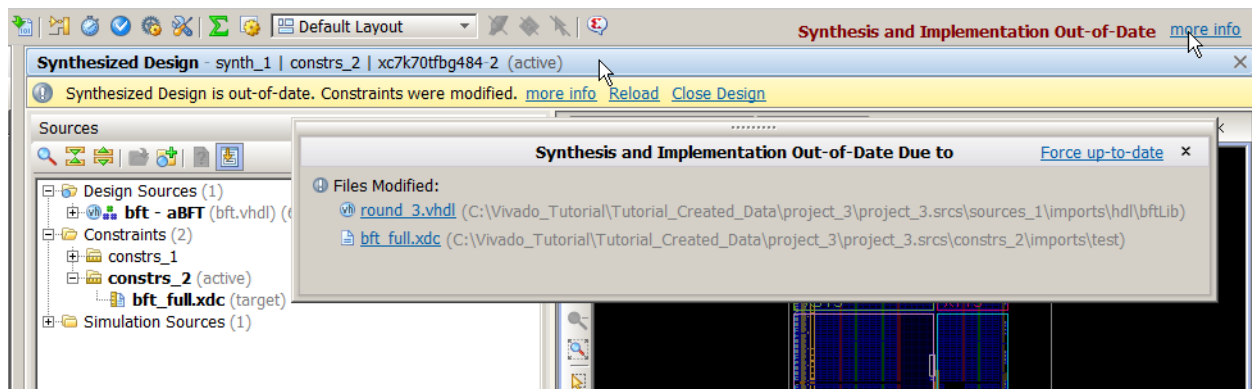

Figure 3-23: Design Out-of-Date and Reload Banner
As source files, netlists, or implementation results are updated, an out-of-date message is displayed at the right side of the Design View banner of an open Synthesized Design or Implemented Design to indicate that the run is out of date, as shown in Figure 3-23. Click the associated link to view which aspects of the design are out of date.
- **Force up-to-date:** Select the Force up-to-date link in the "Out-of-Date Due to" window that opens when you click more info as shown in Figure 3-23.